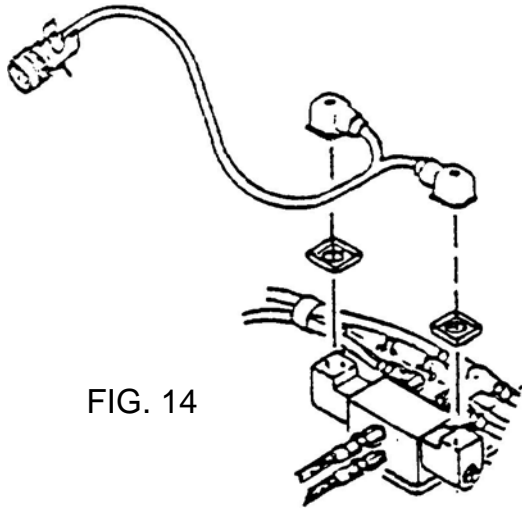

FIG. 14
- (1) Attach the dozer control cord connectors to the solenoid valves in the manifold assembly. Make sure the gaskets are in place and tighten the screws. Do not over tighten the screws. See FIG. 14